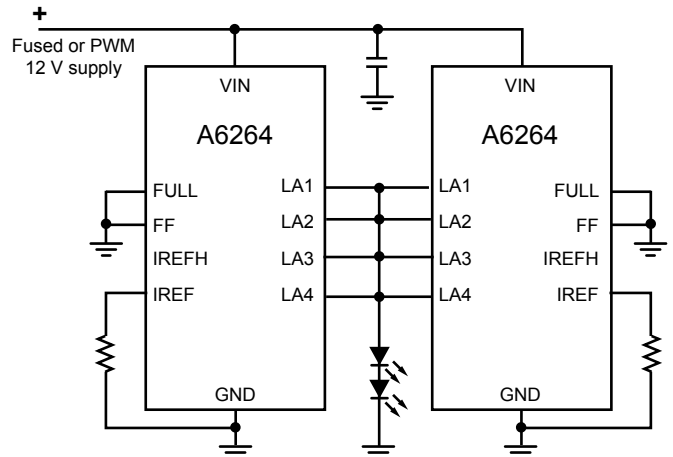

Figure 11. Disabling FF, driving high brightness (HB) LEDs with two A6264s.
- If neither fault action nor fault reporting is required, then FF may be tied to ground as in figure 11. This shows two A6264 ICs driving a single string of two HB LEDs.